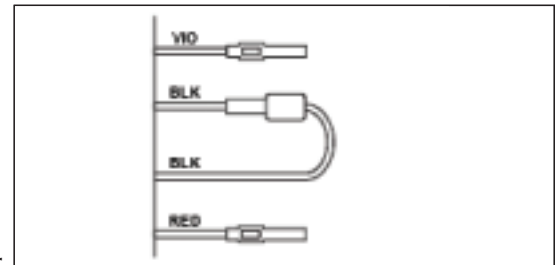

Figure 3-19 — Wiring Before Modification
2. Separate the black wires (common) from each other. (See Figure 3-19.)